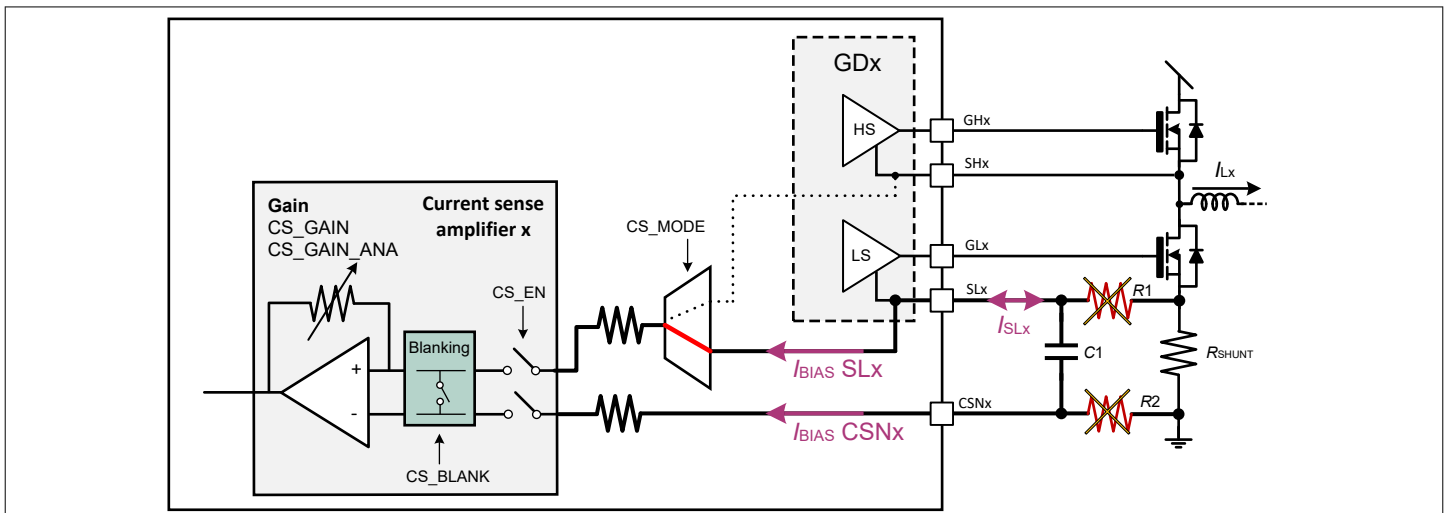

Figure 72 Current sense amplifier input filtering
RC filter at SL_x and CSN_x is not preferred and hence must be done with care. Resistors R_1 and R_2 as shown in Figure 72 introduce unexpected voltage drops due to amplifier bias current and/or gate driver current, which affect the R_{SHUNT} current sensing accuracy. R_1 also limits the current of low-side (LS) gate driver and acts in fact as a R_g resistor. A parallel capacitor (C_1 as shown below) between SL_x and CSN_x can be used. This can increase switching noise during MOSFET switching, at the same time improve steady state value. Larger capacitor values will accentuate this effect. Depending on application this value can be adjusted. The parallel capacitor should be close to the SL_x and CSN_x inputs pins on PCB and values between 100 pF to 1 nF can be a good starting point.